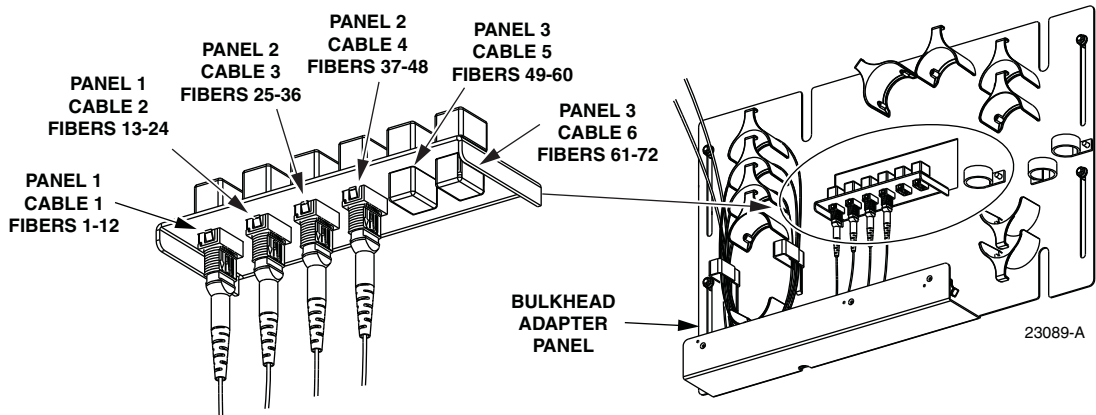

Figure 64. Layout of Bulkhead Adapter Panel
4. Locate the adapters on the bulkhead adapter panel that correspond to the distribution panel being installed. The layout of the adapter panel is shown in Figure 64.